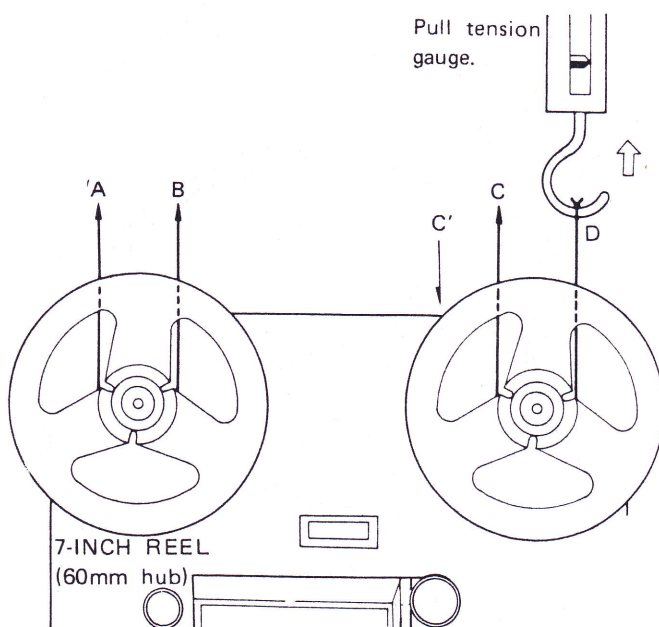

Fig. 20
● Back Tension Torque at Playback (Figs. 20, 21)
2. Set tape deck in vertical position in playback mode at 7-1/2 ips (19cm/s). Measure back tension of supply reel base by pulling tension gauge in B direction as shown in Fig. 20.
● Take-up Torque at Playback (Figs. 20, 21)
2. Set tape deck in vertical position and in playback mode at 7-1/2 ips (19cm/s). Measure take-up torque of take-up reel base (While moving tension gauge slowly in C' direction as shown in Fig. 20, read value of the gauge.)
● Back Tension Torque at Fast Forward (Figs. 20, 21)
2. Set tape deck in vertical position in fast forward mode. Measure back tension of supply reel base (pull in B direction as shown in Fig. 20).